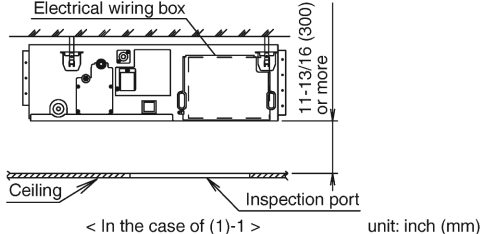

Fig. 3-1
1. Inspection ports 1 and 2 (17-11/16 inch (450mm) × 17-11/16 inch (450mm)) (Fig. 3-2) and a minimum space of 11-13/16 inch (300mm) at the bottom of the product (Fig. 3-1).